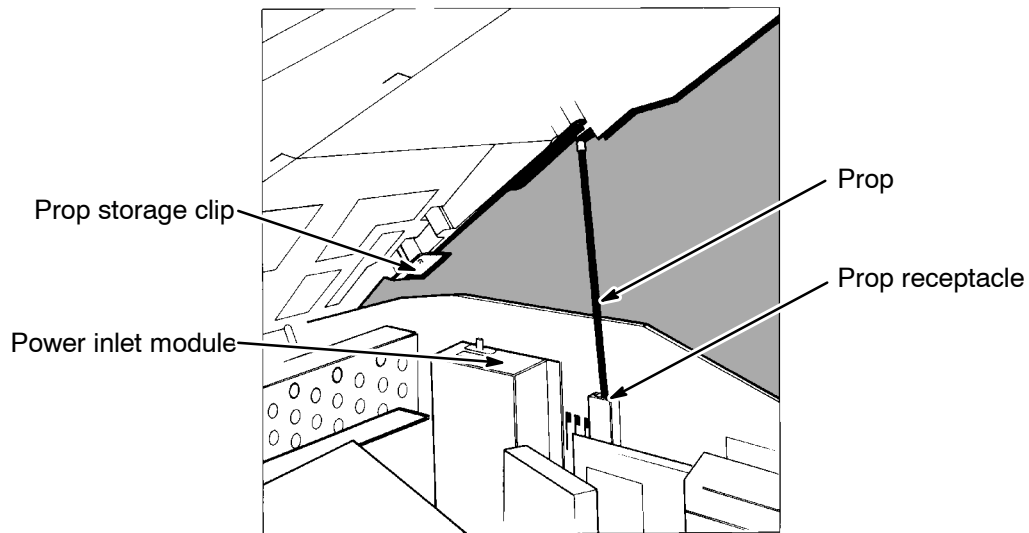

Figure 4-2 Propping Open the Main Cover
- 7 Support the cover with the prop, inserting the free end into the notched receptacle, as shown in Figure 4-2.